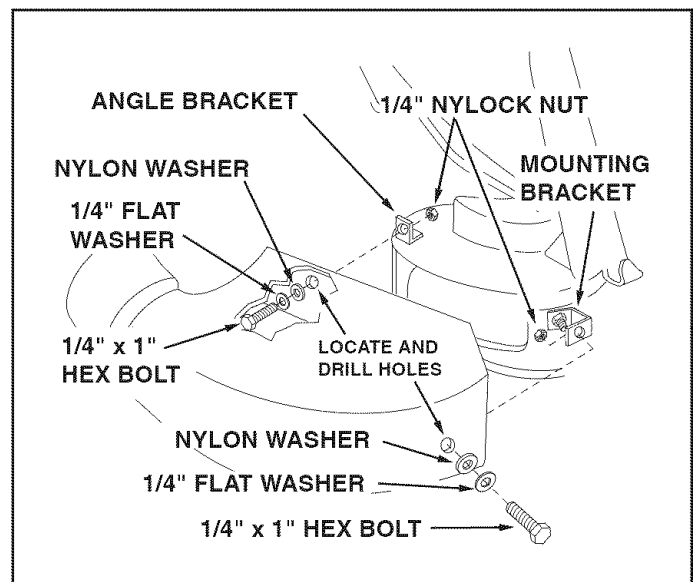

FIGURE 29
- Fasten the angle bracket and the mounting bracket to the mower deck as shown in figure 29. Use two 5/16" x 1" carriage bolts, 5/16" flat washers and 5/16" nylock nuts. The bolt heads go on inside of mower deck.
- Drill two 5/16" diameter holes in the deck adapter that will align with the holes in the angle bracket and the mounting bracket. Assemble the deck adapter to both brackets using two 1/4" x 1" hex bolts, 1/4" flat washers, nylon washers and 1/4" nylock nuts. See figure 29.